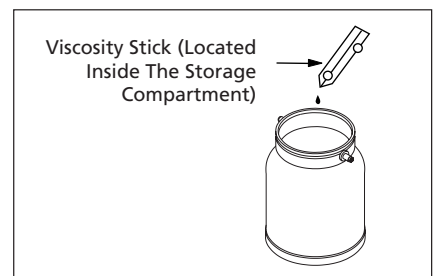

Figure 8 - Viscosity Stick
3. Using the following procedure, check the viscosity of the material before locking the gun onto the material cup (Figure 8).